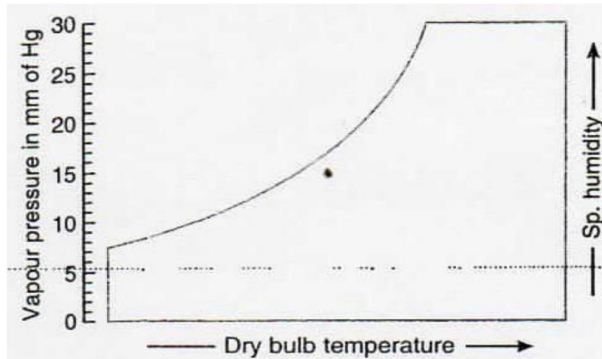

Fig. 13. Vapour pressure lines.
7. **Vapour pressure lines.** The vapour pressure lines are horizontal and uniformly spaced. Generally, the vapour pressure lines are not drawn in the main chart. But a scale showing vapour pressure in mm of Hg is given on the extreme left side of the chart as shown in Fig.13.